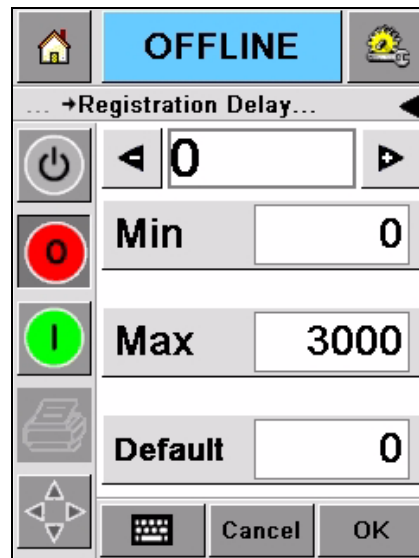

Figure 5-17: Min, Max and Default Values
- Enter the *Min*, *Max* or *Default* values (Figure 5-17 on page 5-13).